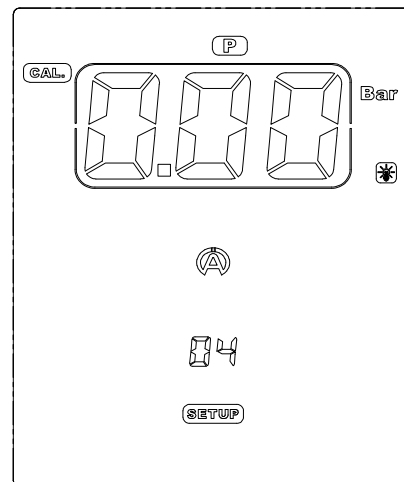

Figure 18
- 2) Press the central button **Ok** to calibrate the sensor of pressure and to leave the menu (figure 18).